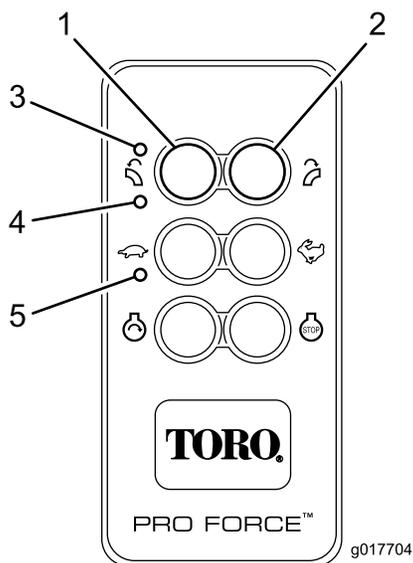

Figure 15
The remote control activates (powers up) when any push button is pressed. Blinking TX and RX LEDs indicate that the remote control is alive and communicating with the base unit. To conserve battery power, the remote control stays active for approximately three (3) seconds before automatically shutting down unless there is button activity within the three second limit. When the unit times out and powers down, all remote control LED activity stops (Figure 15). Pressing any button will reactivate the remote control